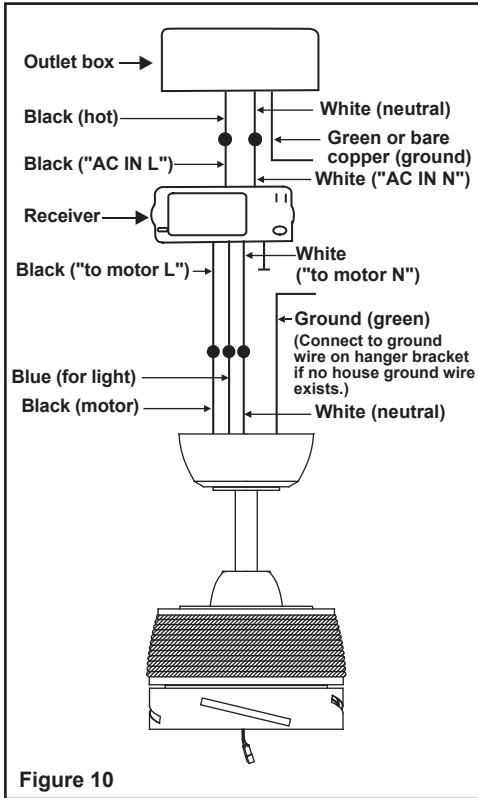

Figure 10
**Step 2.** (Fig. 10) Motor to Receiver Electrical Connections: Connect the Black wire from the fan to Black wire marked "TO MOTOR L". Connect the White wire from the fan to the White wire marked "TO MOTOR N" from the receiver. Connect the Blue wire from the fan to the Blue wire marked "For Light" from the receiver. Secure wire connections with the plastic wire nuts provided.
**Step 3.** (Fig. 10) Receiver to House Supply Wires Electrical Connections: Connect the black (hot) wire from the ceiling to the black wire marked "AC in L" from the receiver. Connect the white (neutral) wire from the ceiling to the white wire marked "AC in N" from the Receiver. Secure the wire connections with the plastic wire nuts provided.
**Step 4.** (Fig. 10) If your outlet box has a ground wire (green or bare copper) connect it to the fan ground wires; otherwise connect the hanging bracket ground wire to the mounting bracket. Secure the wire connection with a plastic nut provided. After connecting the wires spread them apart so that the green and white wires are on one side of the outlet box and black and blue wires are on the other side. Carefully tuck the wire connections up into the outlet box.